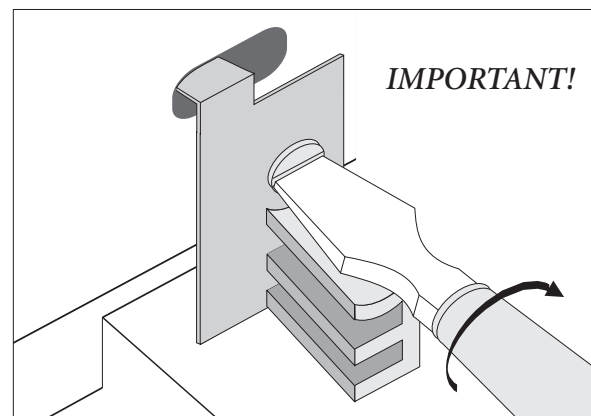

Fig 5-9 The Power Module Flip Latch
4. Swing the flip latch into place, and tighten the screw. **Do not overtighten this screw.** See figure 5-9.